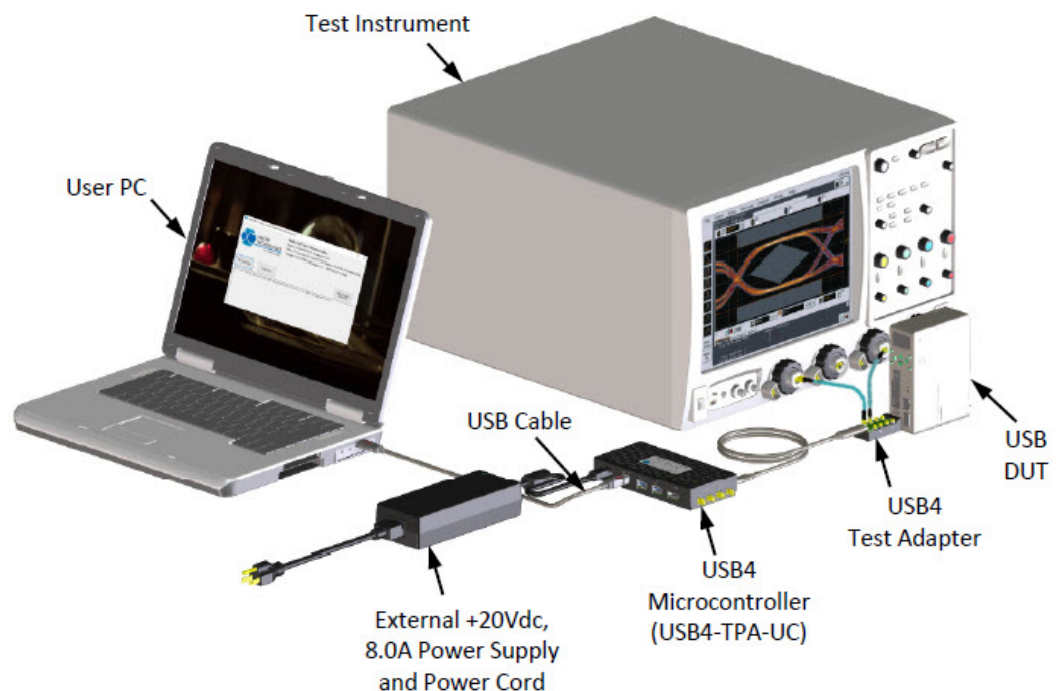

Figure 172 Transmitter TP2/TP3 Test Setup
- 1 For the physical connection between the DUT & the Oscilloscope, see Figure 172 and for configuring the USB4 Test Application, see "Setting up the USB4 Test Application" on page 46.
- 1 Connect the DUT to the Oscilloscope as shown in the Figure 172.